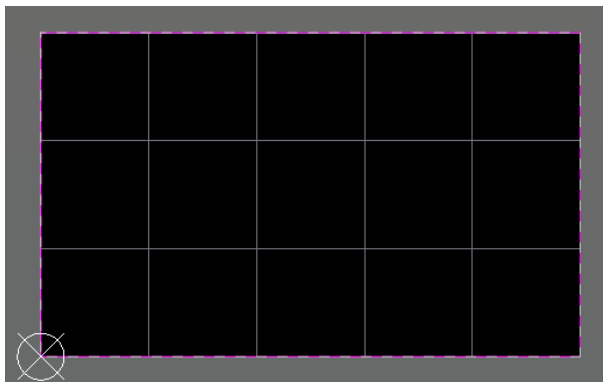

Figure 10. Rectangular board with Origin marker
35. Your PCB should now look similar to what you see at Figure 10.